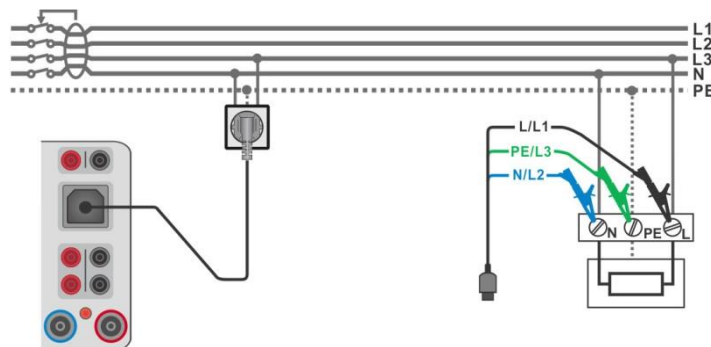

Figure 6.85: Z auto measurement connection
- Connect 3-wire test lead or Plug test cable to the object under test, see Figure 6.85.